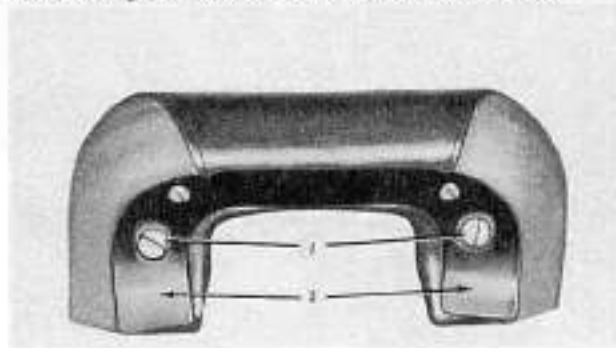

FIG. 360
The arm rest is held on the trim panel by means of two screws (1, Fig. 360). The outer retaining plate (2) is provided with two holes which expose the attaching screws, therefore, it is not necessary to remove the plate before removing the arm rest.